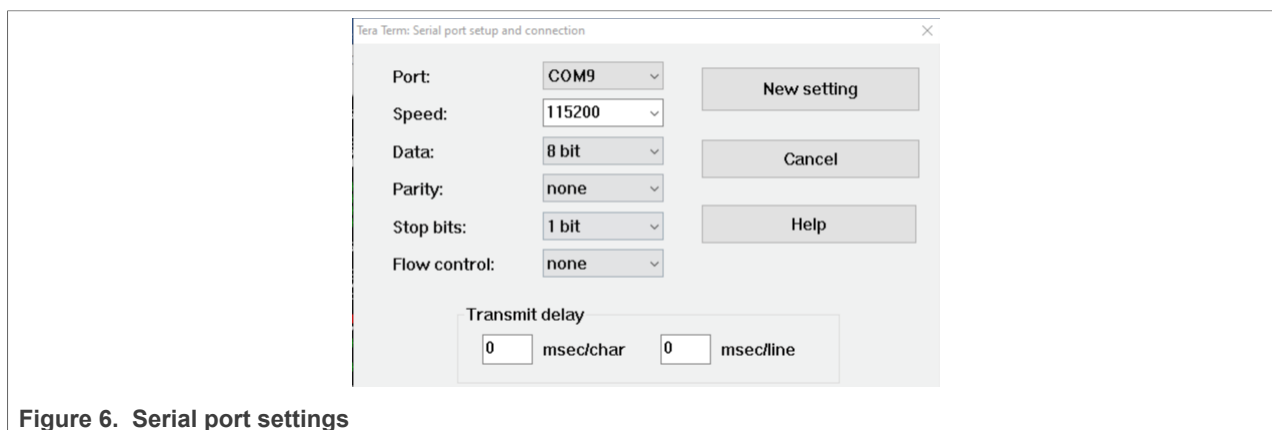

Figure 6. Serial port settings
2. Open a serial port console with the baud rate of 115200 and other serial port settings on the PC, as shown in Figure 6.